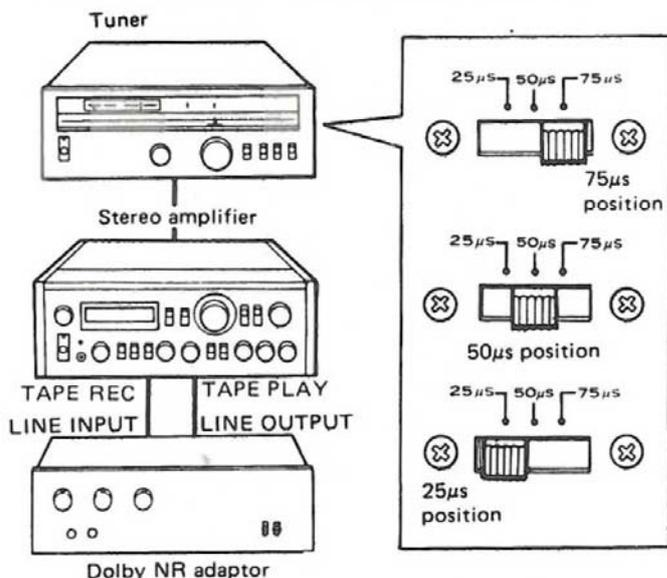

Fig. 10
1. As shown in Fig. 10, connect the Dolby NR adaptor to the tape (record & play) jacks of the stereo amplifier.